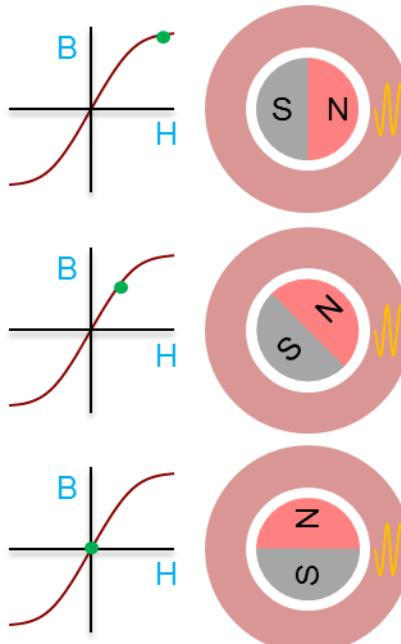

Figure 89: The permanent magnet of the rotor biases the BH curve of the stator iron which can be used to find the location of the north pole.
The magnetic field strength will bias the stator's BH curve operating point as shown in Figure 89. Supporting and opposing magnetic fields are applied with the stator coil. When both fields add, the BH curve is pushed further into saturation. The BH curve operating point moves further into the linear region when the magnetic fields oppose. The difference in inductance between these two BH curve operating points allows the motor controller to determine where the rotor north pole is located.
- As described in Figure 89, the magnitude must be large enough to put the BH curve of the stator iron into saturation. Caution must be exercised so the iron is not saturated too much. The figures below illustrate when the current is too high and just right.